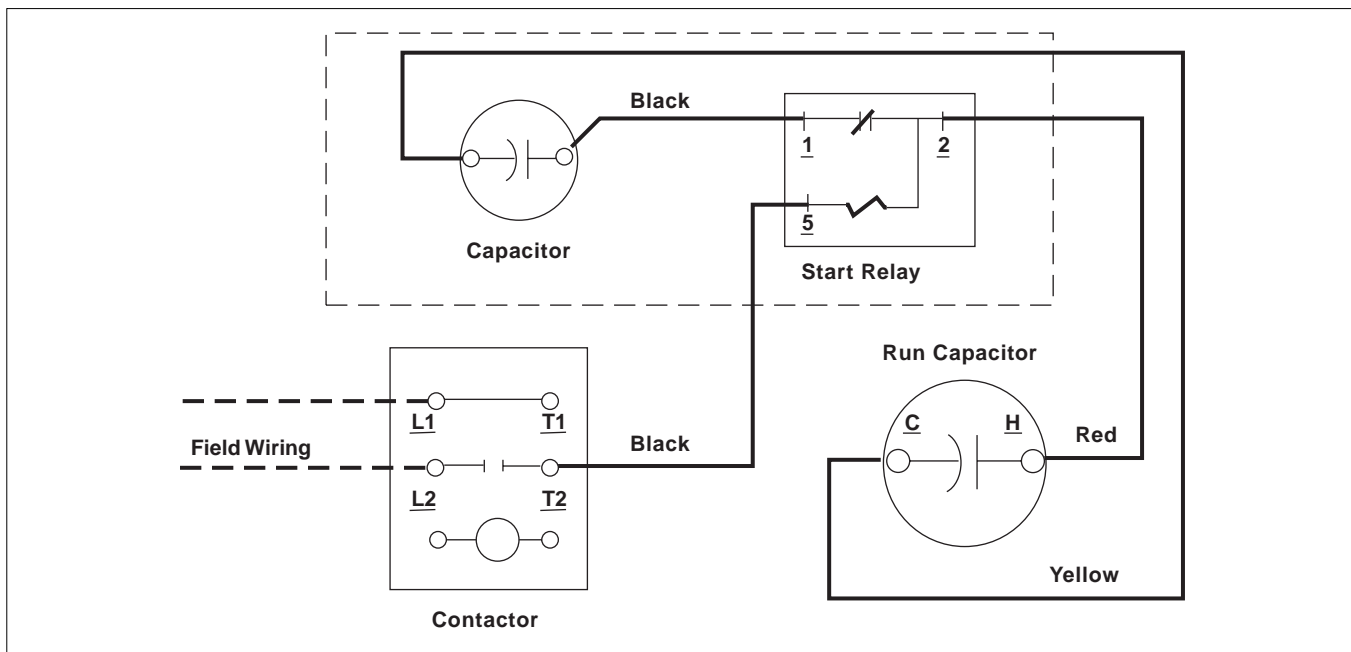

Figure 3
6. Connect the "Black" wire to the terminal on the load side of the normally open pole of the contactor. See Figure 3.